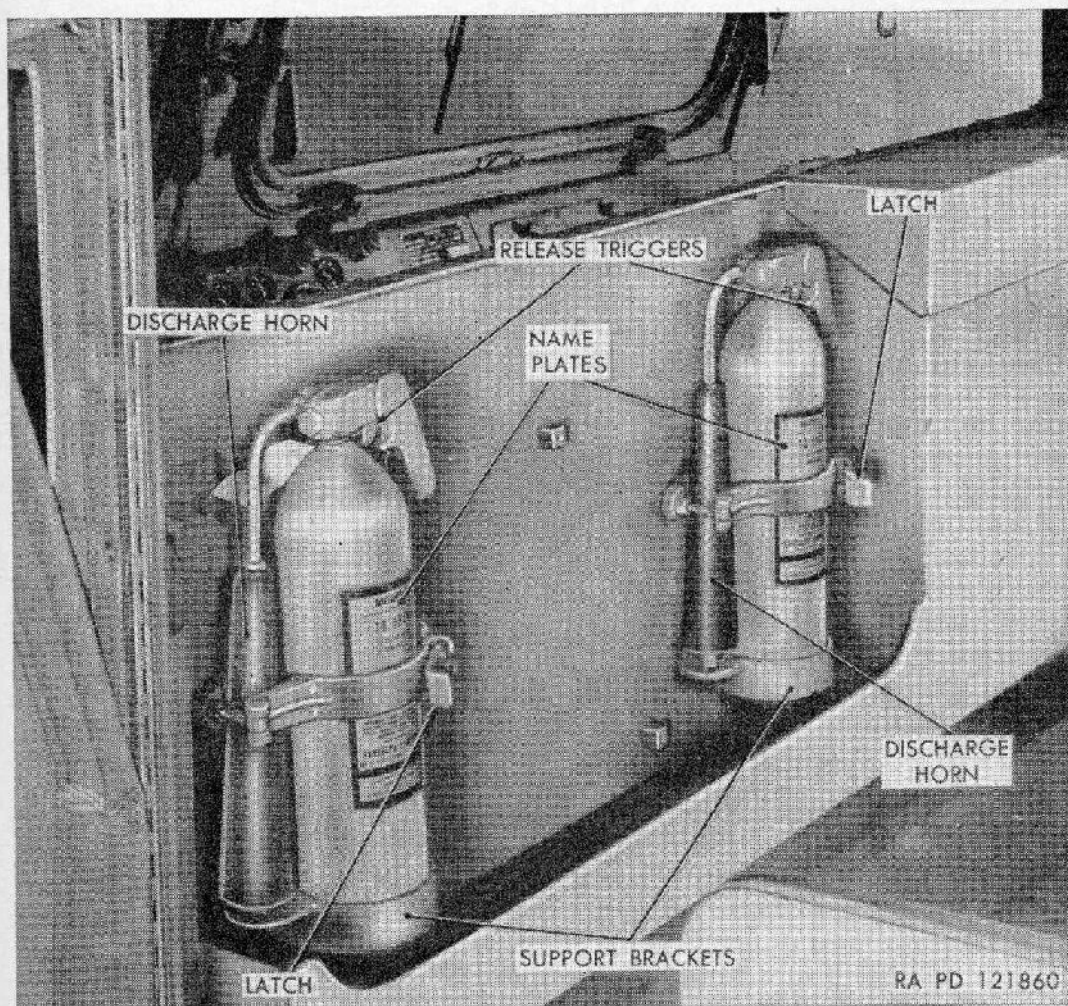

Figure 11. Fire extinguishers.
a. Description. Each 38-ton high-speed tractor M6 is equipped with two portable 4-pound CO₂ fire extinguishers (fig. 11). The fire extinguishers are mounted on a bracket fastened to the back of driver's seat in the rear compartment. The cylinders are held
by latches that permit quick removal when needed (fig. 11). The discharge of the contents is controlled by trigger operated valves. The discharge horns on the extinguisher permit spray to be directed at fire as desired.